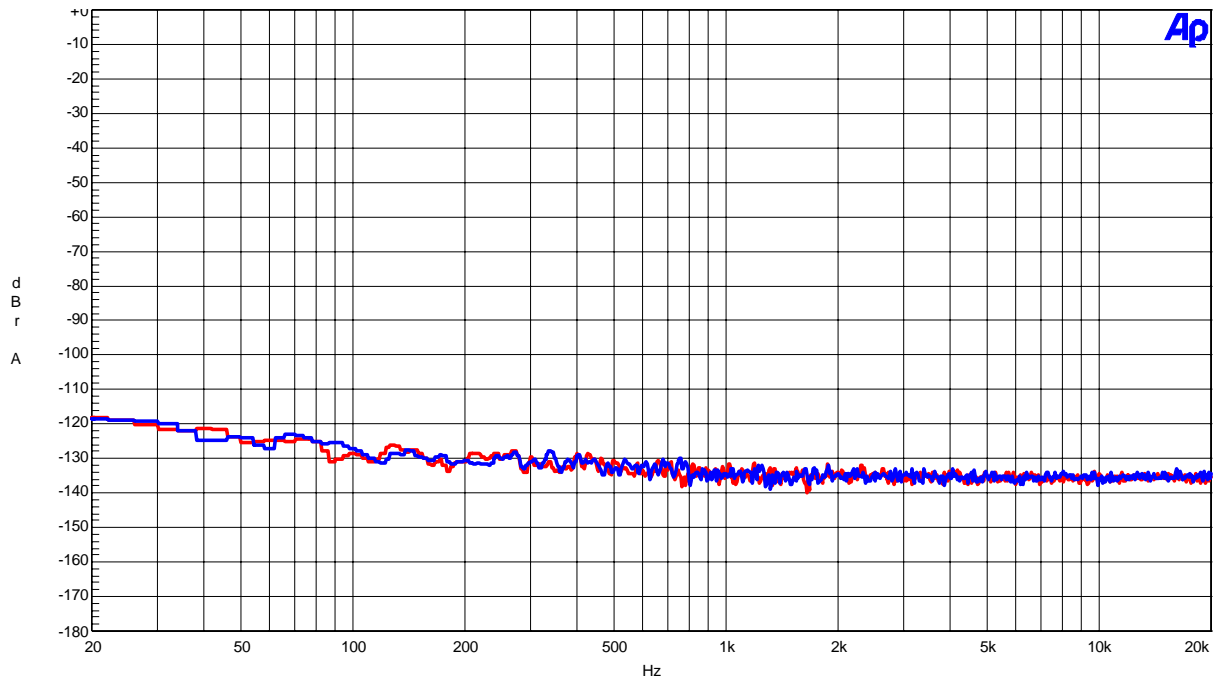

Figure 10. FFT(noise floor)
- Figure 10. FFT (noise floor)